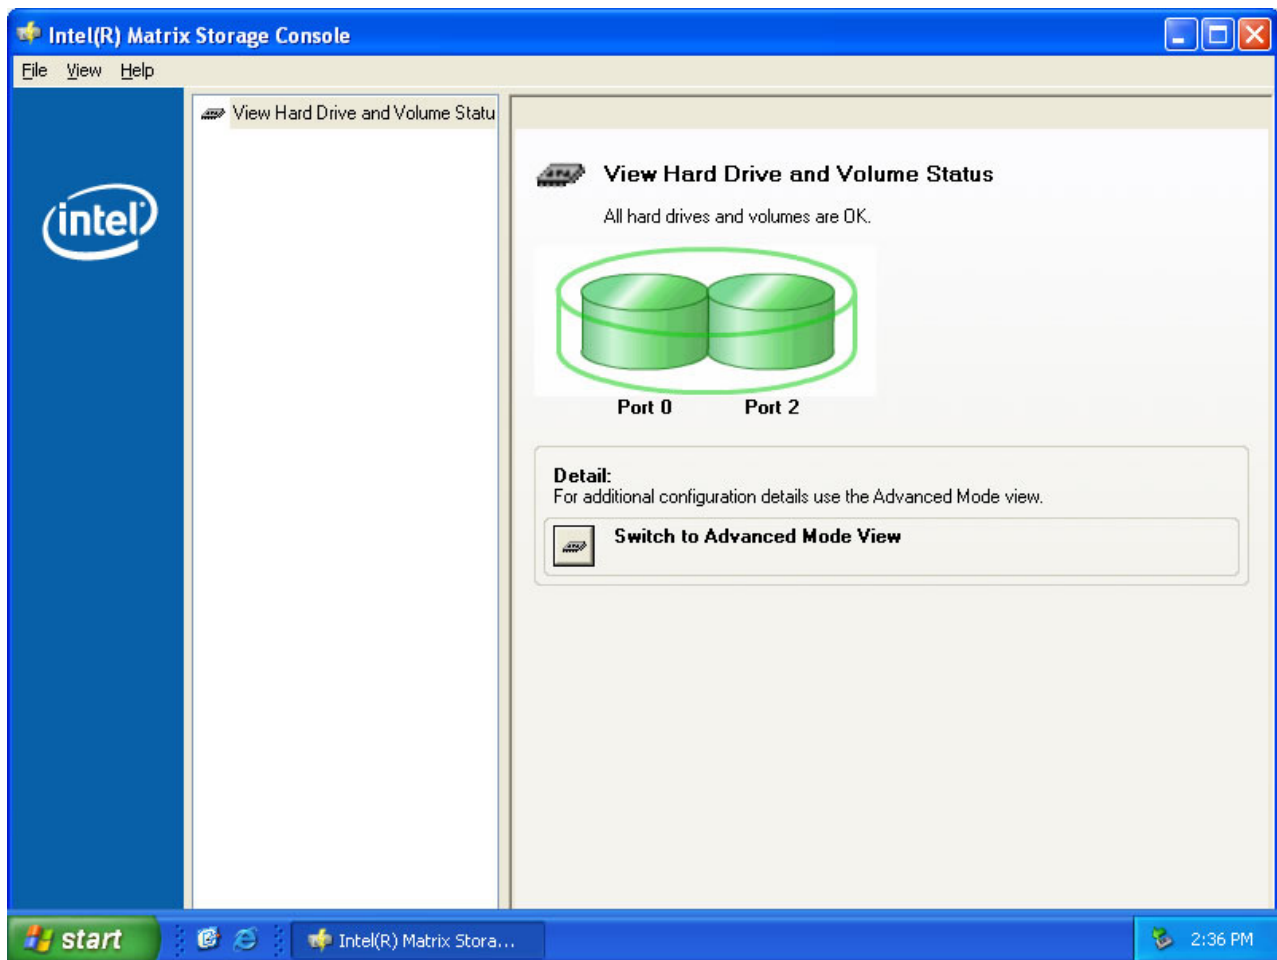

Figure 48. Viewing the hard drive and volume status
2. See Figure 48 on page 68 to determine which hard disk drive has failed, as indicated by the drive and volume status.